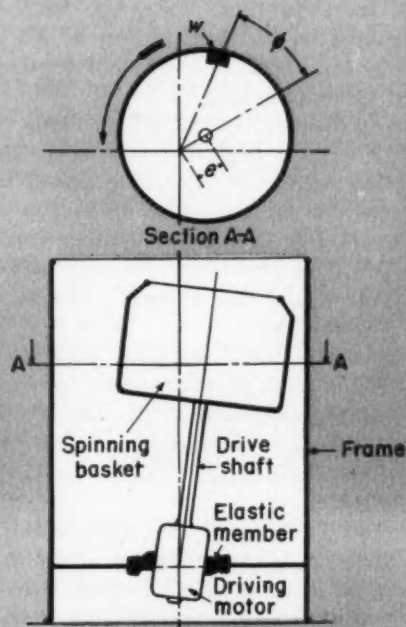

Fig. 1—Diagram of typical centrifugal extractor
**Rotating System:** In Fig. 1 is shown a vertical cross-section through a typical centrifugal extractor. Here the driving motor is shown mounted on the frame of the machine by means of an elastic member. The latter member is shown as a rubber ring surrounding the motor. The driveshaft extends upward from the motor and carries the spinning basket in which the load is placed.
A horizontal cross-section through the basket at the plane A-A is also shown in Fig. 1. The unbalance is represented by the weight,  $w$ . This view shows the basket displaced radially, as it would be at some instant during rotation due to the effect of the unbalance.
The curves of Figs. 2 and 3 illustrate the fundamental performance of a rotating system such as that shown in Fig. 1. The design of any successful automatic balancer must be based on these inherent relationships.
**LEBLANC BALANCER:** As previously discussed and shown in Fig. 3, when an elastically mounted rotor such as Fig. 1 shows is unbalanced and is run above its critical speed, it may be said to rotate with its "light side out". Realizing this, Leblanc in 1916 suggested a simple automatic balancing device\*. The general idea behind this device was probably anticipated by others†.